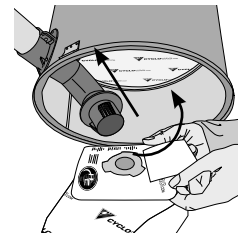

figure 18
4. Ensure adequate sealing by inserting bag as far as retention ring (**figure 18**). Rotate bag 20° (**figure 18**) to ensure tabs on bag adaptor are no longer aligned with the slots in the bag collar.